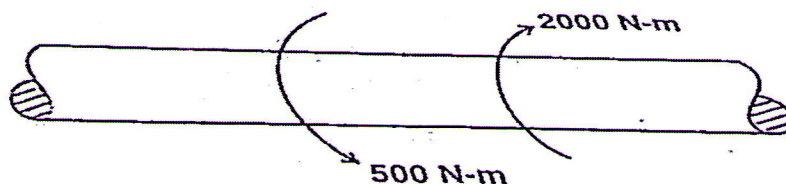

Fig.1
- 1 a) Distinguish the behaviour of ductile and brittle materials with the help of stress versus strain diagram. Also mark the salient features of the curves. (4)
b) Differentiate between codes and standards (3)
c) Define stress concentration. How to mitigate it? (3)
d) Explain the difference between finite and infinite life problems in the design of a machine component subjected to fatigue loading? Brief the steps involved in it. (5)
- 2 a) Define endurance limit of a material. What are the factors affecting it? (5)
b) A tie bar has to carry a load of 100 kN. What must be the thickness of a bar of 110 mm width, if there is a rivet hole of 22 mm diameter on its centre line? Assume the working stress for the material of tie bar as 75 MPa. (10)
- 3 a) Define notch sensitivity factor. Obtain an equation for it. (3)
b) Find the diameter of a steel shaft to transmit twisting moments varying from 500 N-m to 2000 N-m as shown in Fig. 1. The ultimate tensile strength of the material is  $600 \text{ N/mm}^2$  and yield stress is  $450 \text{ N/mm}^2$ . Assume stress concentration factor as 1.2, surface finish factor as 0.8, size factor as 0.85 and factor of safety as 2. (12)